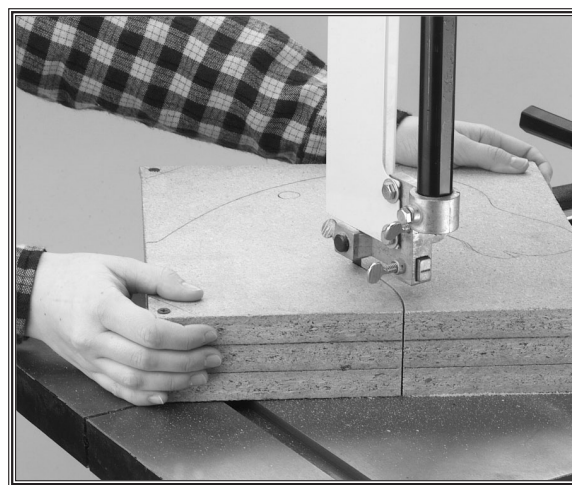

Figure 47. A typical stacked cut on a bandsaw.
5. Cut the stack of pieces as though you were cutting a single piece. Follow your layout line with the blade kerf on the waste side of your line as shown in **Figure 47**.